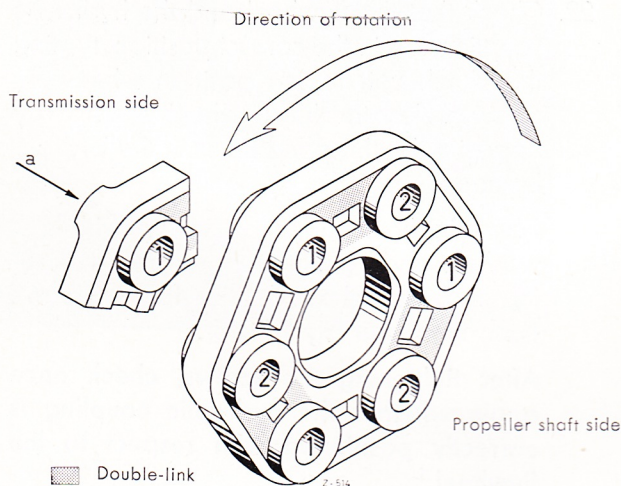

Fig. 25-1/11
In order to assist differentiation, a small shoulder (a) has been made on the outside of the first hole of each double-link. The shoulder must always point in the direction of the transmission (Fig. 25-1/11).
28. Install the intermediate bearing of the propeller shaft so that it is not under stress (see Fig. 25-1/3).
29. Attach the selector rod and the shift rod and fix the spring clips to the ball-cup connectors (see Fig. 25-1/1).